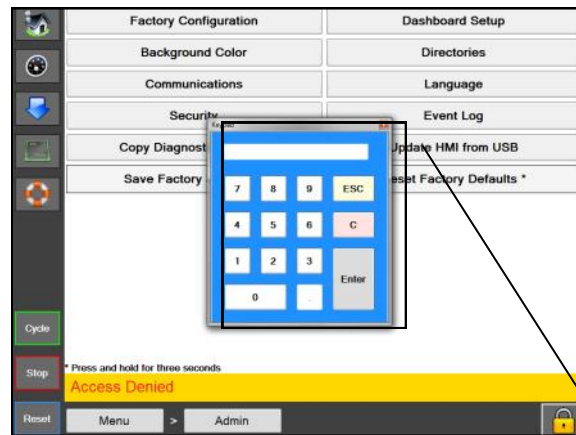

Figure 28C. Keypad
1. Touch the padlock Icon and enter the designated password. **Figure 28C.**